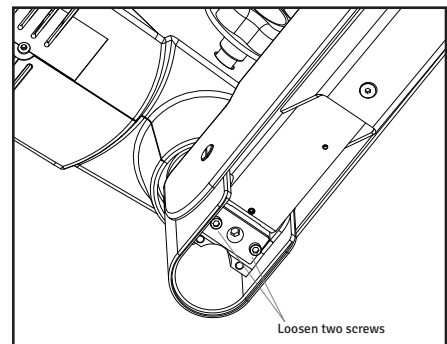

Fig 20
2. Loosen the two allen screws as much as possible using the 4 mm allen wrench (see Fig. 20). Note that these two screws will not come out.
4. After achieving the desired tension, retighten the two screws shown in Fig. 20.